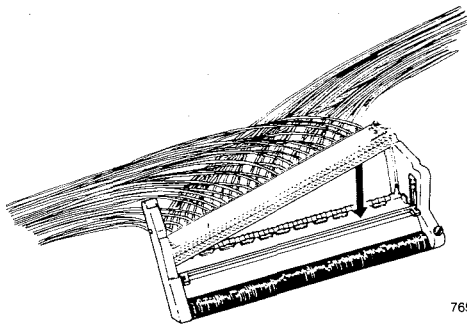

Fig. 54—Place module to be bridged into stripped head.
- o. Place an existing module into "stripped" splicing head. See Figure 54.